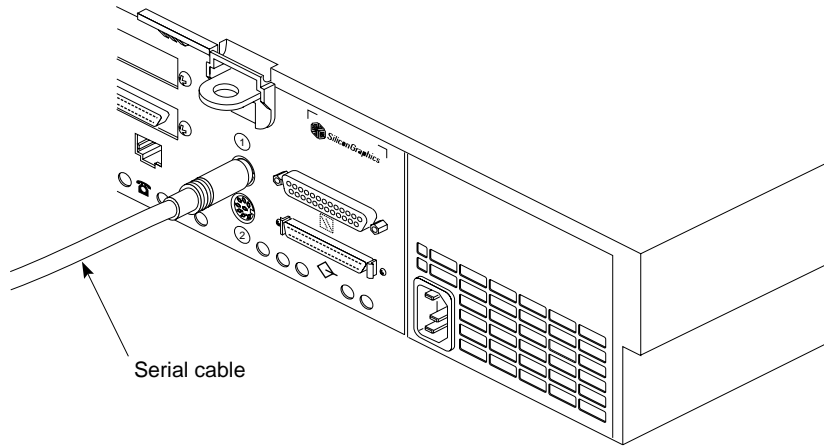

Figure 3-2 Connecting the System Console (ASCII Terminal)
3. Connect the RS-232 serial cable (provided) to an ASCII terminal. The cable is approximately 10 feet (3 meters) long. Plug the round, 8-pin DIN connector into serial port **1** on the back of the system, as shown in Figure 3-2.